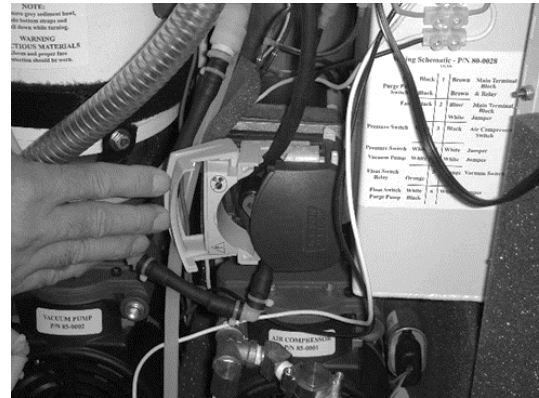

Fig. 2
- 3 Locate peristaltic purge pump housing and open to access the tubing. (Fig. 2)